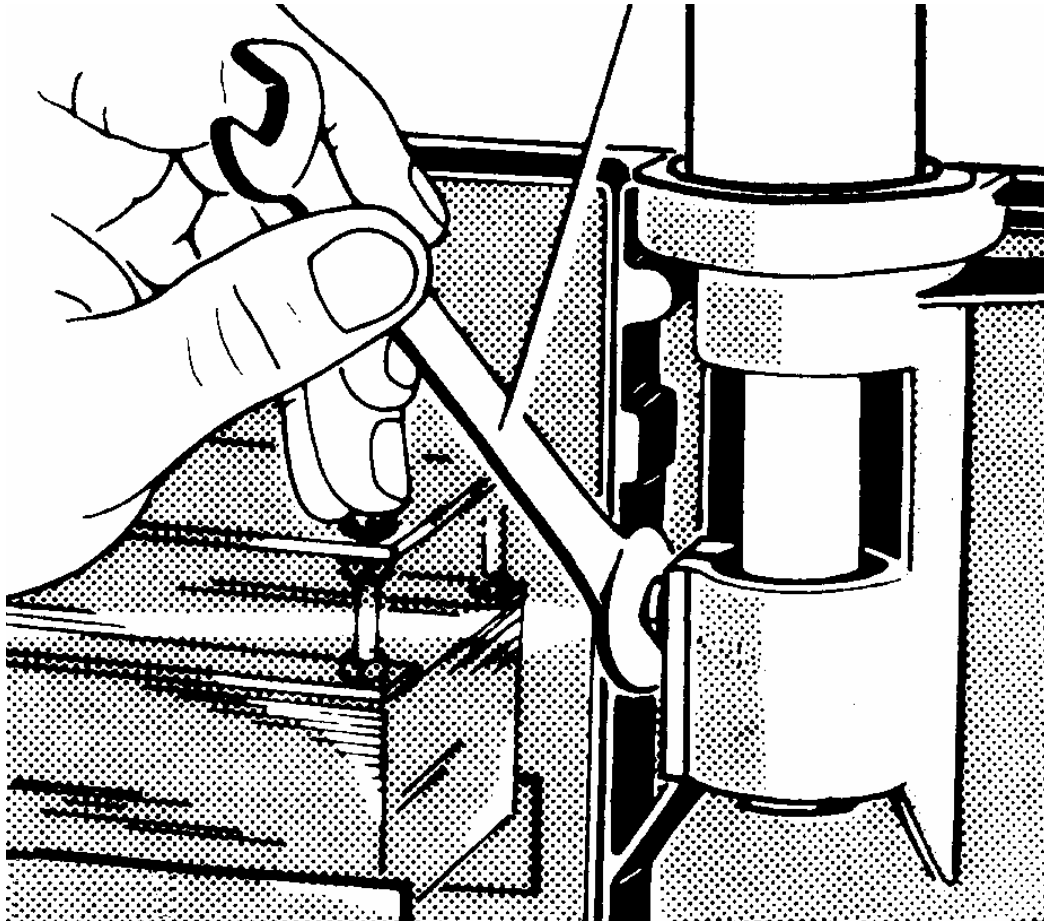

Figure 1-7. Open-end wrench 13mm--`1/2 inch.
(4) If the tube head drifts, the brake is malfunctioning. Adjust the brake with an open-end wrench. See figure 1-7.